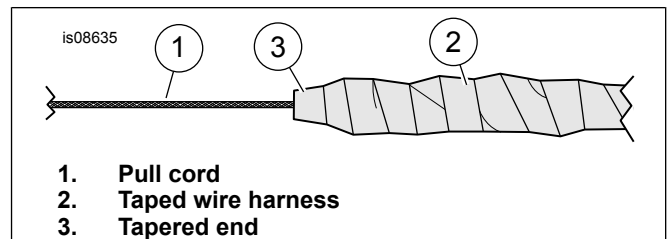
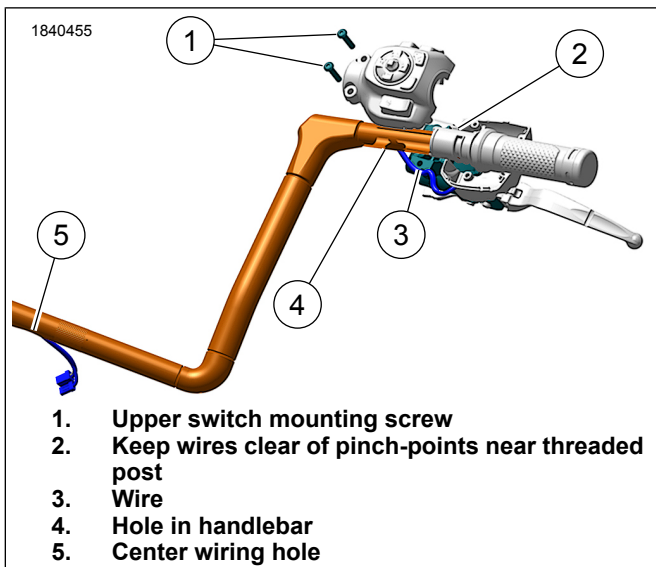

Figure 2. Pull Cord and Wire Harness
Figure 3. Switch Housing Wire Routing
1. Stagger connectors so they are not in same locations along harness (2).
- a. See Figure 2. String a suitable cord (1) through handlebar.
- c. Wrap tape (2) over harness.
- d. Tape should come to a taper (3) and be flexible to ease pulling through handlebar.
3. See Figure 3. With handlebar placed on a smooth, soft surface, grip ends upward, gently feed right side switch wire bundle into opening on underside of **new** handlebar and toward the large opening in center of bar.